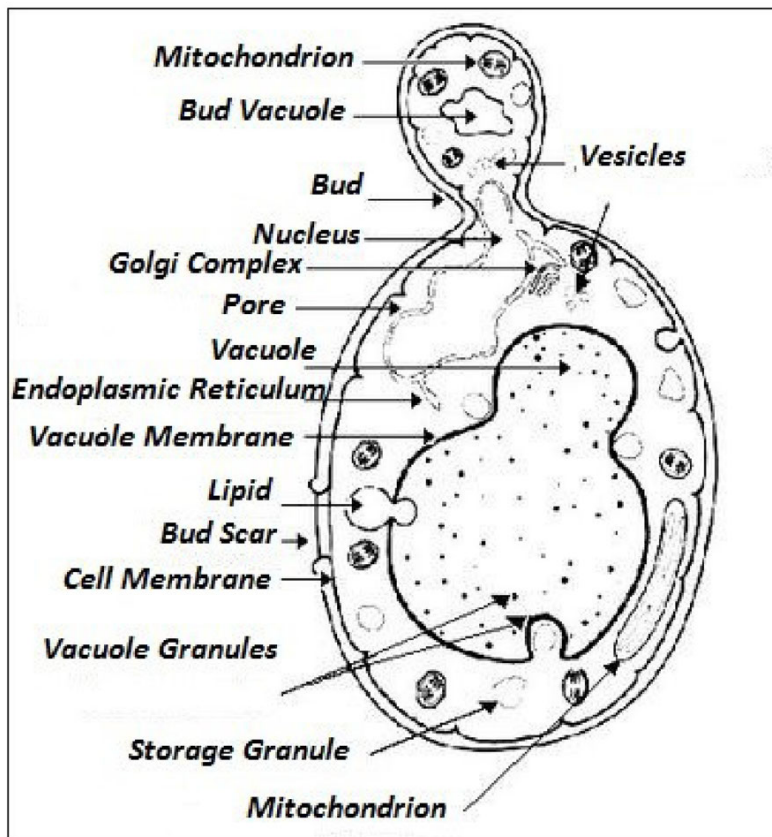
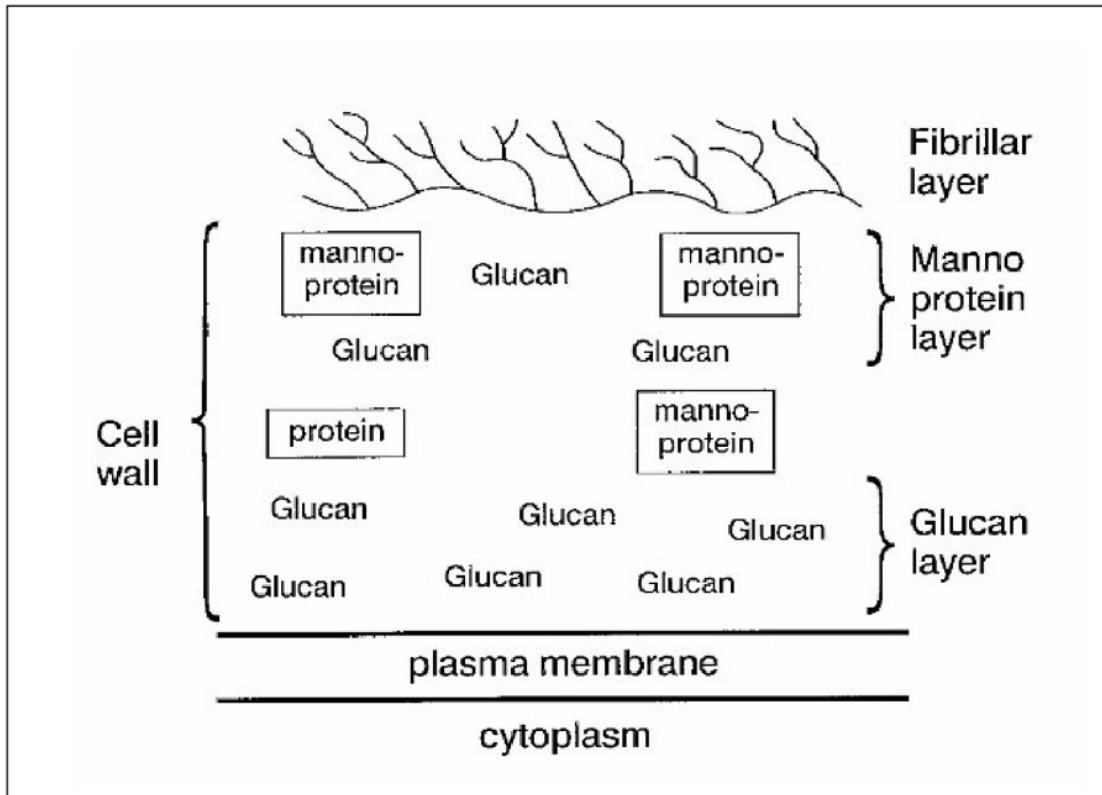

Figure 32 – Yeast cell parts
Figure 33 – Yeast cell wall
Figure 32 illustrates the interior structure of a yeast cell. Figure 33 illustrates the yeast cell wall make-up. (1) The cell wall is comprised of beta (1,3) and beta (1,6) glucans interspersed with proteins and mannoproteins that allow for the passage of molecules of fermentable sugars and nutrients into the cell structure. Some of the cell wall protein material consists of proteolytic enzymes. In particular, glucanase and mannanase, help with the “softening” of the cell wall to permit daughter cell formation. Invertase breaks down sucrose into its constituent components, glucose and fructose which can then pass the cell wall. Alkaline phosphatase and lipase help hydrolyze fatty acids and lipids so their residues can pass through the cell wall. The outer surface of the cell has tiny attachments called lectins (fibrillar layer) which are made of mannoprotein.
A yeast cell reproduces itself by a process called budding in which it creates a daughter cell identical in appearance to itself. The pinched neck feature at the top of the cell in Figure 33 is the daughter cell. It will have all the same features as the parent cell. A cell can generate several daughters and each of those daughters in turn several progeny. Normal, healthy yeast cells will experience up to an eight-fold population increase during a ferment. This figure will vary with the amount of fermentable sugars. A lower gravity (fewer fermentable sugars) recipe will see more cell re-production than a higher gravity recipe used by distillers. Higher gravity recipes will thus require close attention to ensuring proper conditions for the yeast along with adequate amounts of nutrient and minerals from the water. Ensure the yeast cells have optimal conditions, and the cells will rapidly multiply and ferment sugars to alcohols.